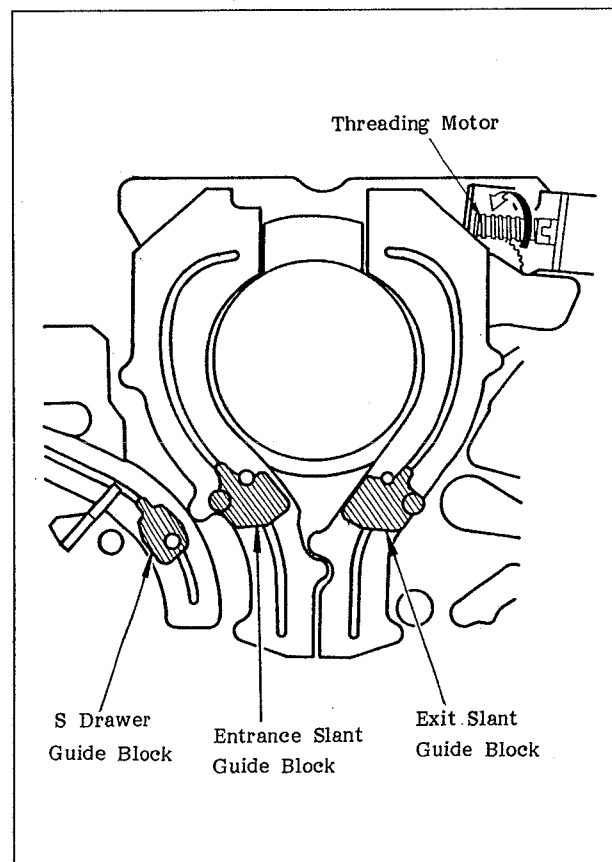

Fig. 5-9 Positioning the Guide Blocks
2. Rotate the threading motor manually in the direction of the arrow to move the guide blocks to the positions shown in Figure 5-9.